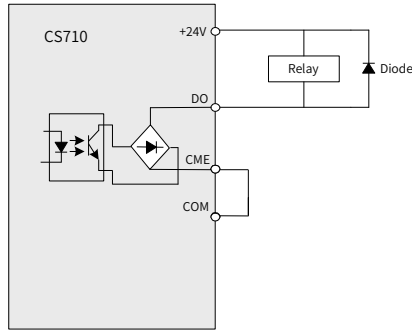

Figure 3-67 Wiring of DO
- ◆ As shown in Figure 3-67, install the snubber diode with the correct polarity to prevent damage to the 24 VDC power supply upon DO output.